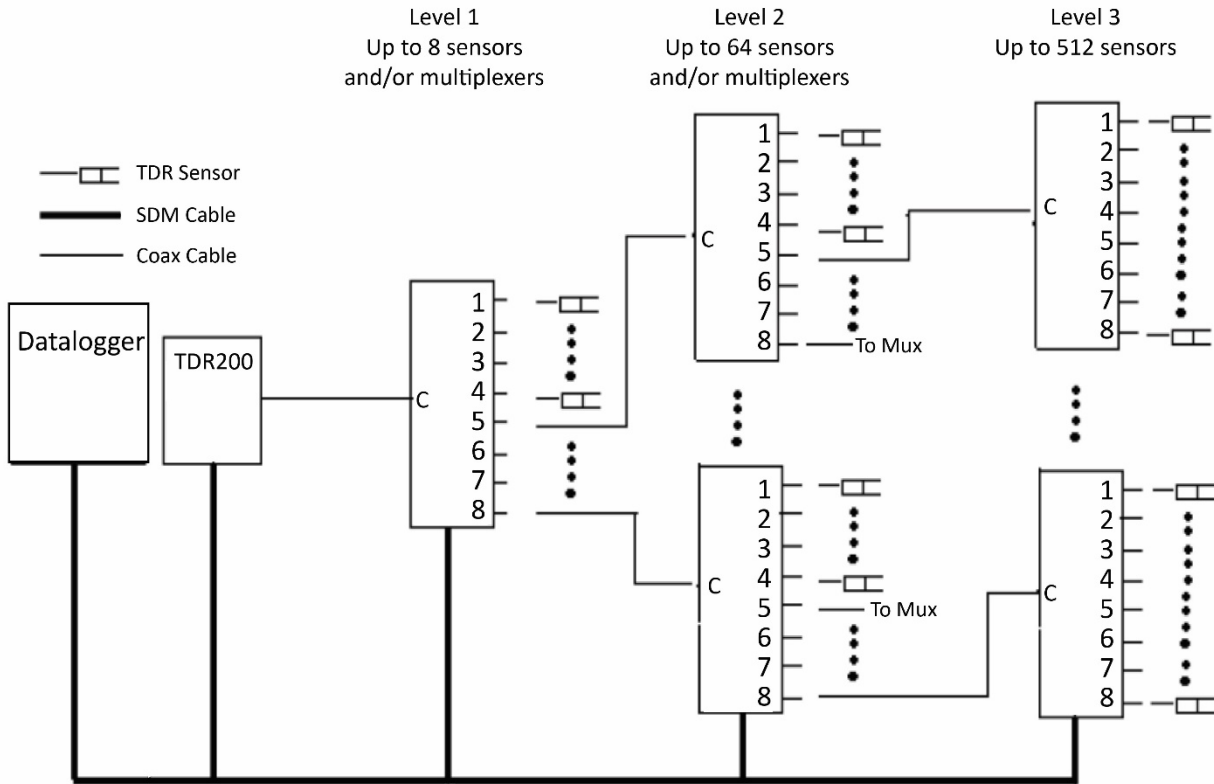

FIGURE 7-1. TDR System Components
- Current drain during switching:** ~90 mA (all multiplexers of the same level switch simultaneously for less than 1 s. See FIGURE 7-1, *TDR System Components (p. 10).*)
FIGURE 7-1 shows the three multiplexer levels allowing up to 512 probes to be measured. The first level includes the TDR200 and one multiplexer. Up to eight coaxial cables connect to each multiplexer. The coaxial cables can be connected to TDR probes or the next level multiplexers.
Each of the eight ports can be connected to a probe or another multiplexer (see FIGURE 7-1, *TDR System Components (p. 10)*).
The address selected on the TDR200 must match the SDM address used in the data logger program. The three multiplexer levels (FIGURE 7-1, *TDR System Components* (p. 10)) use the following addressing scheme: